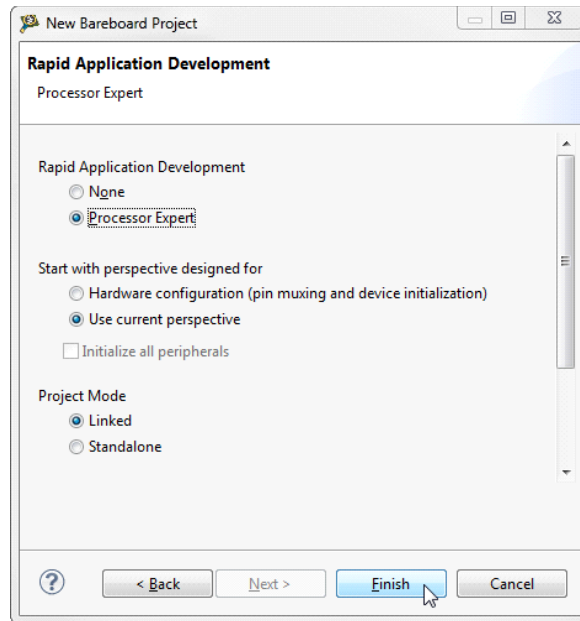

Figure 11. Select the Processor Expert option
3. Select the **Processor Expert** option, and then click **Finish** (see Figure 11).